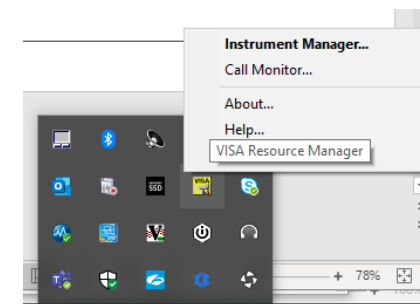

Figure 21. Open TekVISA instrument manager
6. To confirm the connectivity, right click on TekVISA icon (Figure 21) and bring up the **Instrument Manager...**